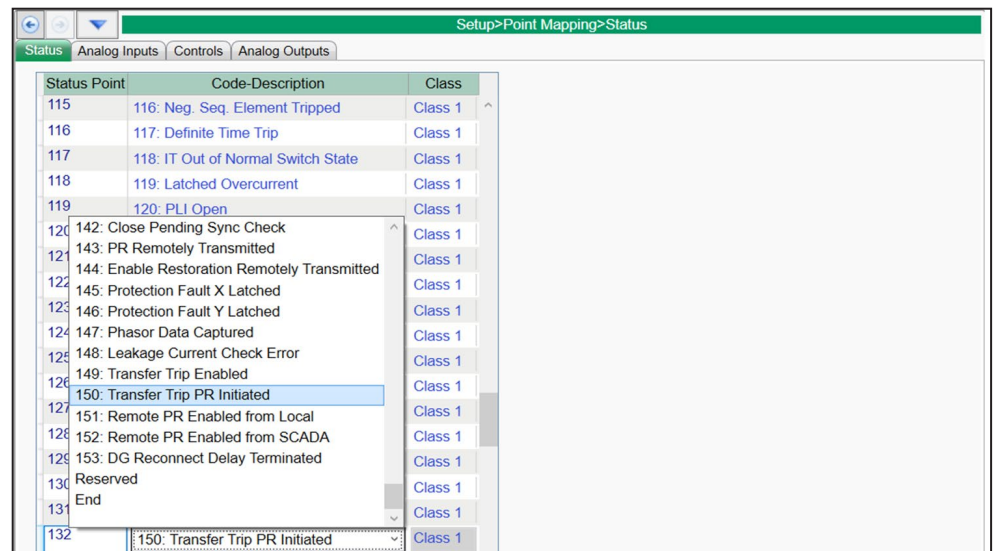

Figure 4. Mapping the Transfer Trip Prohibit Restoration Initiated DNP status point.
STEP 3. Go to the *Setup>Point Mapping>Status* screen and configure the **Transfer Trip Prohibit Restoration Initiated** DNP status point. This point is active when the **Initiate Transfer Trip** command is received and executed. See Figure 4.